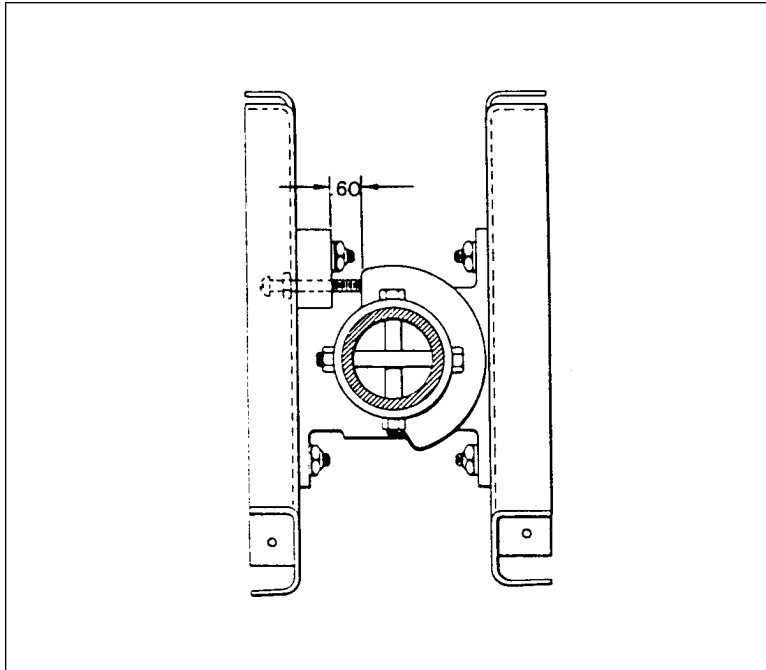

Figure 27-20. Flap Step Adjustment
3. To adjust flap up stop and step lock, loosen jam nut of right torque tube stop screw, located in floor opening along outer end of flap torque tube, and turn stop screw to obtain approximately 0.60 of an inch between stop fitting and bearing block as measured along top side of screw. (Refer to figure 27-20.) It may be necessary to loosen adjustment screw of left stop.